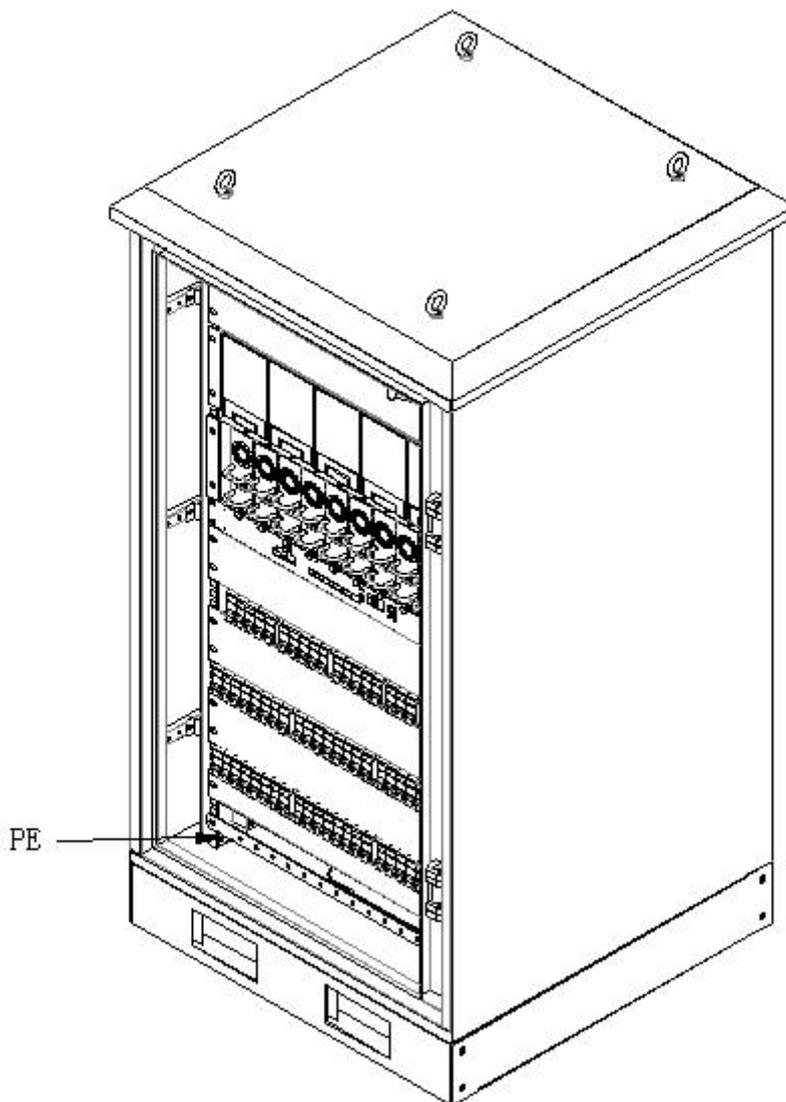

Figure 2-7 Power distribution unit cover position
2. Open the door of the power distribution unit; remove the power distribution unit cover. The power distribution unit cover position is shown in Figure 2-7.
3. Lead the earth cables into the cabinet through the rubber cable entry holes shown in Figure 2-7.
4. Connect one end of the earth cable to the earth terminal shown in Figure 2-7 and weld the other end to the earth metal electrode reliably.